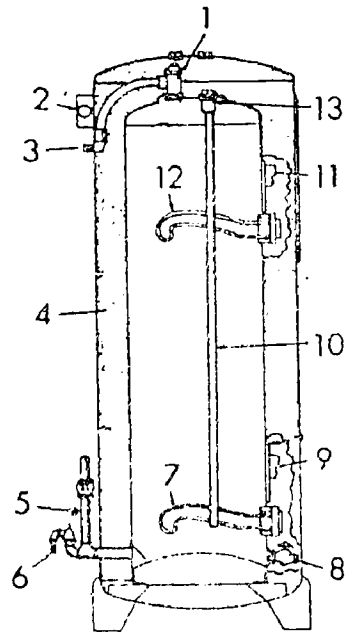

Figure 4
7. The diaphragm relief value drain is represented by which number on (Fig. 4), an electric water heater?
8. In the illustration of an electric water heater (Fig. 4), locate by number the location of the tank valve drain.
9. In the illustration of an electric heater (Fig. 4), locate by number the tee connection.